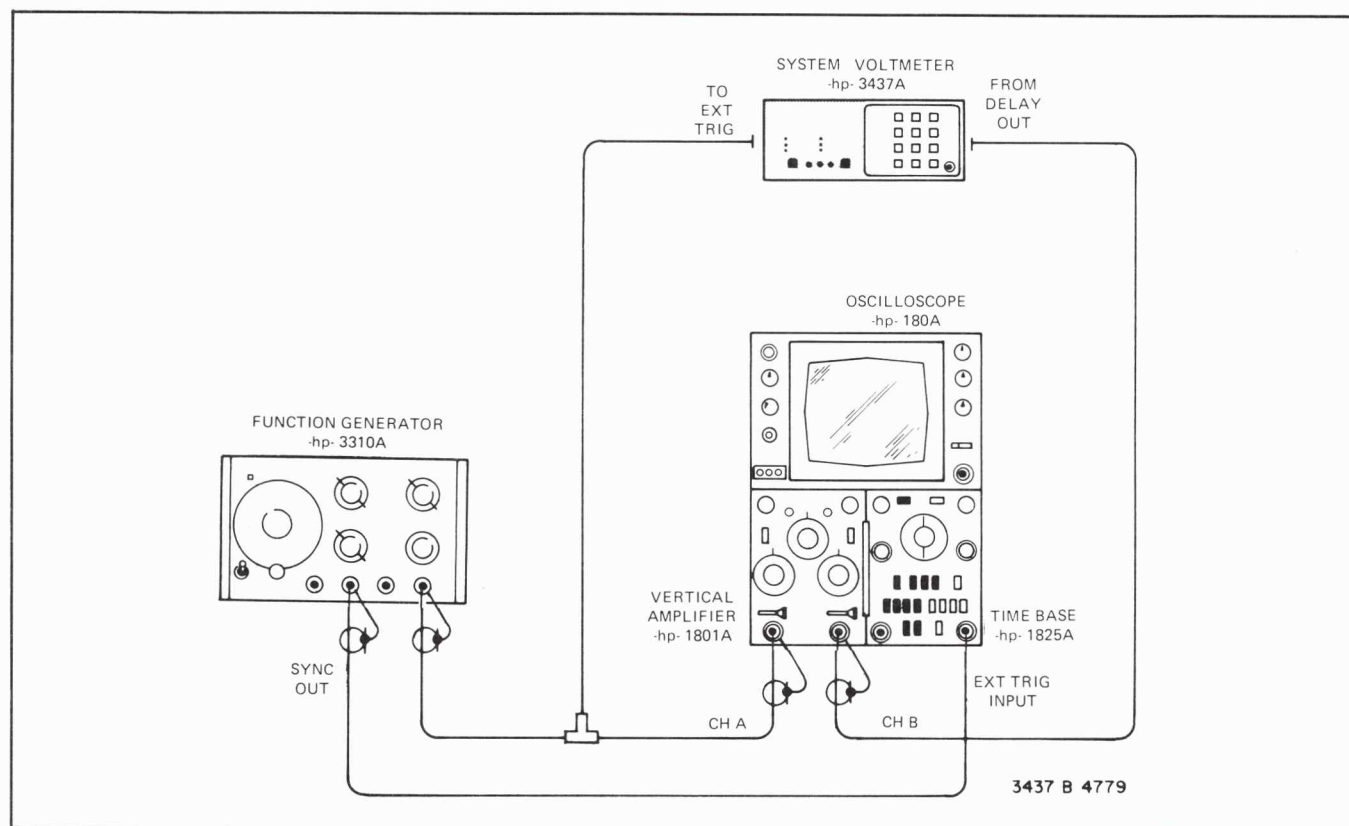

Figure 3-4. Delay Generator.
- a. Connect the equipment as illustrated in Figure 3-4.